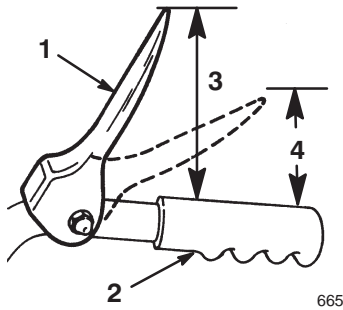

Figure 6
2. Adjust the 2 flange nuts up or down on the traction rod until the distance between the top of the handgrip and the bottom of the traction control lever is approximately 4-3/8 inches (11 centimeters) as shown in Figure 6.
Note: The adjustment is correct when the wheels stop rolling backward and the distance between the top of the handgrip and the bottom of the traction control lever is 1 to 2 inches (2.5 to 5.0 centimeters) as shown in Figure 6.